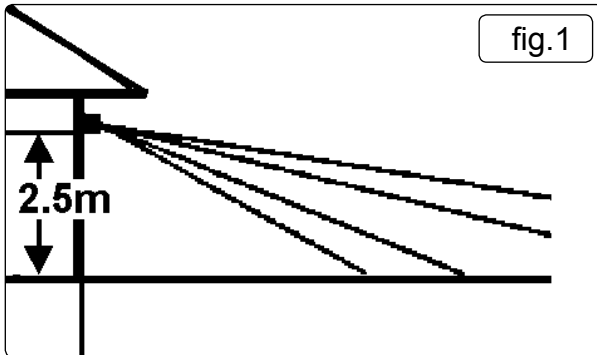
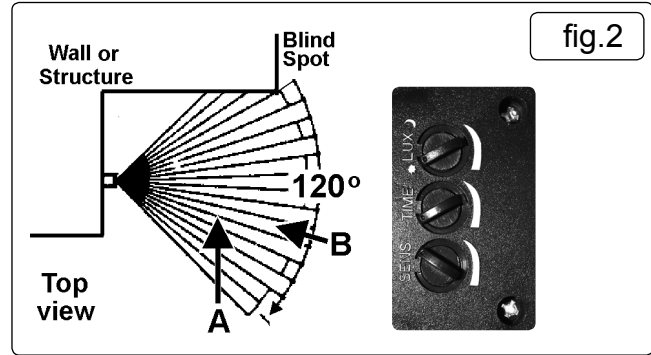

fig.1
fig.2
- 4.1.2. An approximate appropriate mounting height from the ground is 2.5m. (fig.1)
The sensor may be angled independently of the light. Mounted at approximately 2.5m above the ground the sensor will have approx 12m range (fig.1) with a 120° spread (fig.2)
- 4.2.2. Further adjustment may be made by tuning the three switches located on the underside of the sensor as follows: (fig.2).